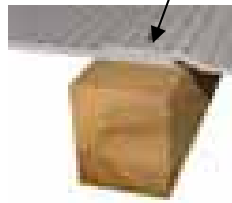

Fig 3
6. It is IMPORTANT to cover all joints with the adhesive foil tape supplied to give an air tight finish. Fig 3